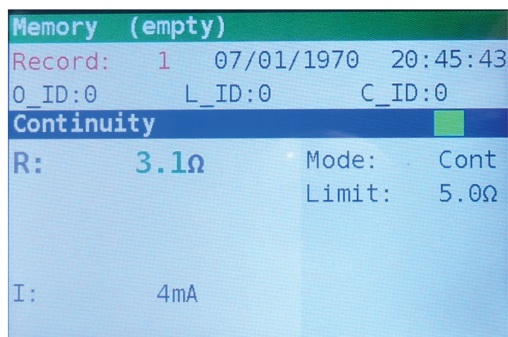

Figure 7.2: Save results
Step 2 Press the **MEM** key. The following is displayed (Figure 7.2):
When a measurement was made, a screen as in figure 7.2 is shown. Press then the **UP** or **DOWN** key to enter the record list.